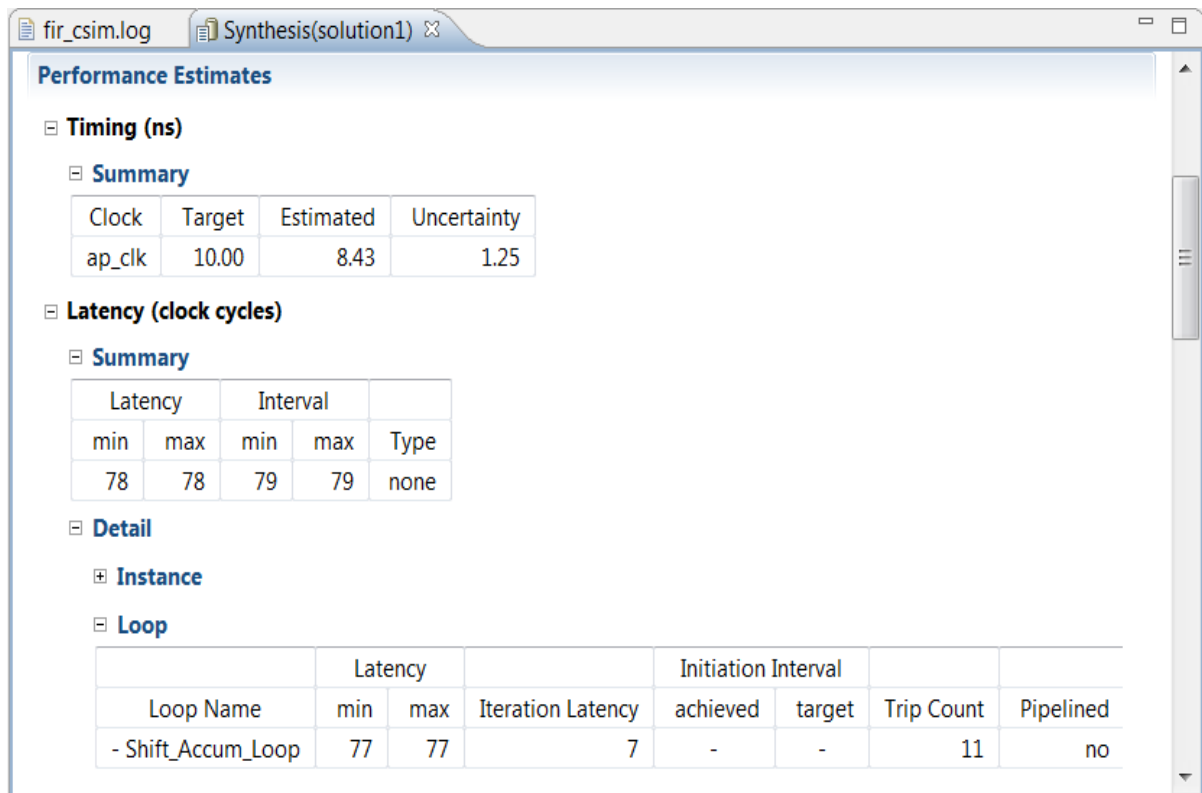

Figure 2-11: Performance Estimates
2. Click **Performance Estimates** in the Outline tab (Figure 2-11).